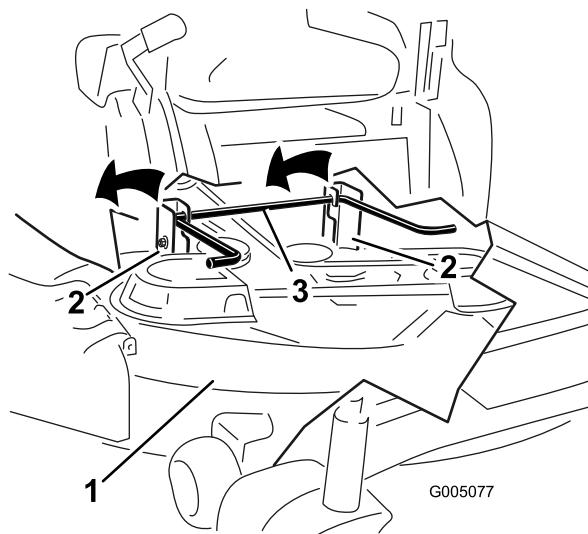

Figure 52
5. Lift the rear of the mower deck and guide the hanger brackets over the rear lift rod (Figure 52).